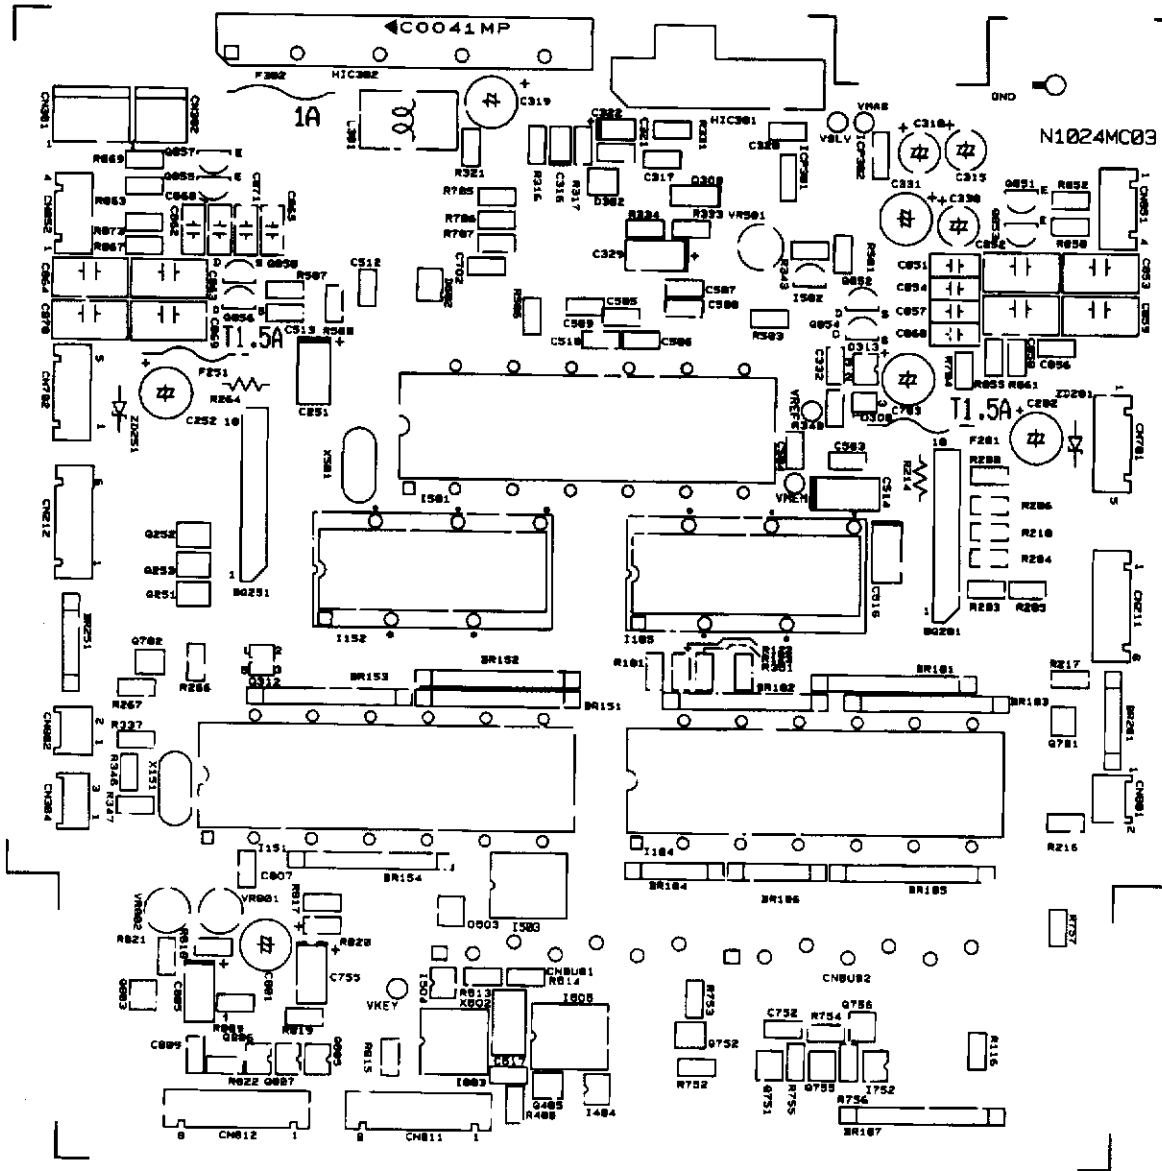

*Figure 8-10. Pump 2 Base Plate Assembly*
**Parts List for Figure 8-10**